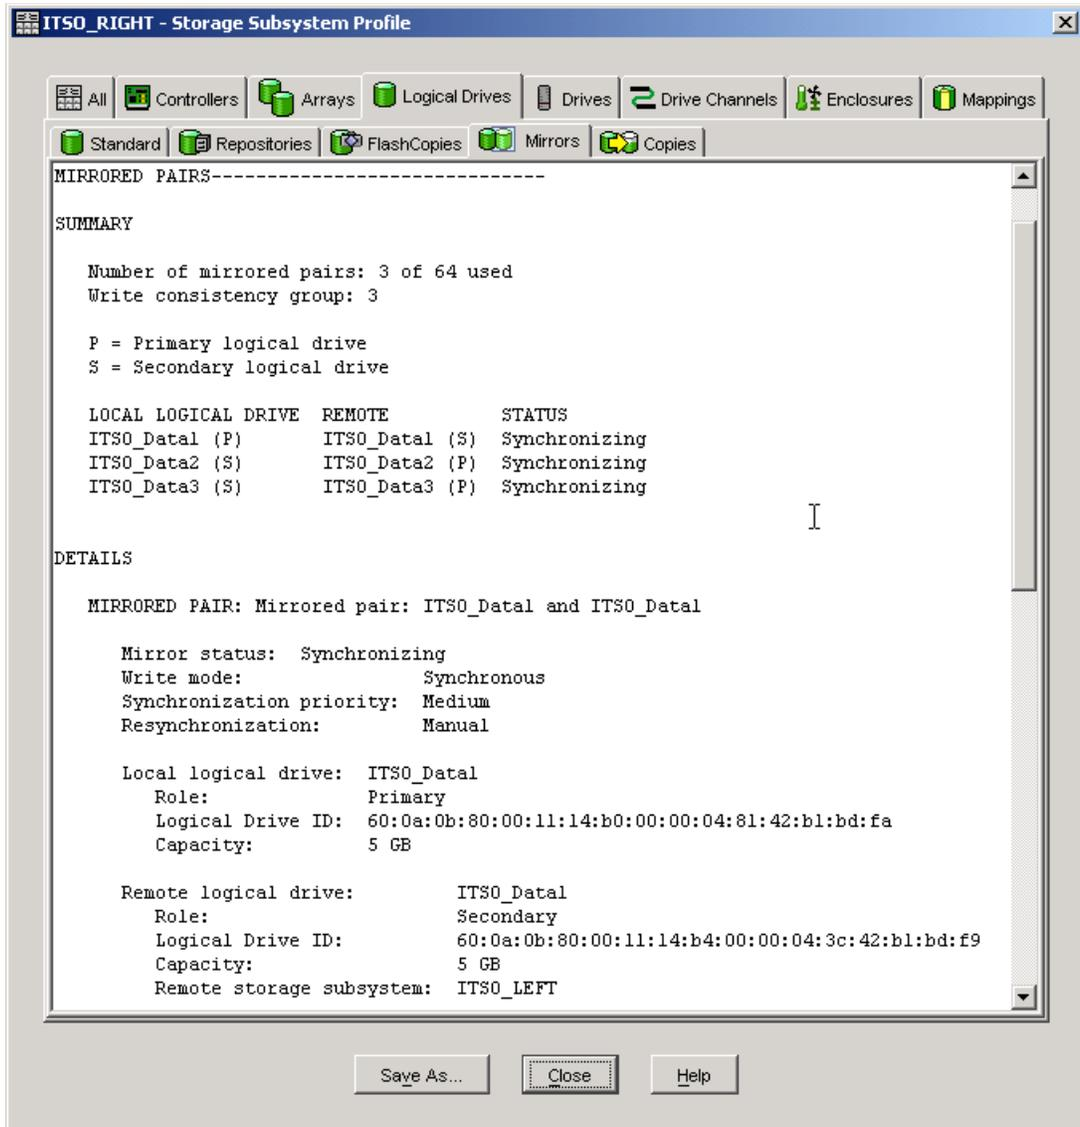

Figure 8-41 Storage Subsystem Profile: Mirrors tab
- The Mirrors tab is a section of logical drive information that displays Remote Mirror properties. The Mirrors tab is only available when the Remote Mirroring premium feature is enabled and activated. See Figure 8-41.